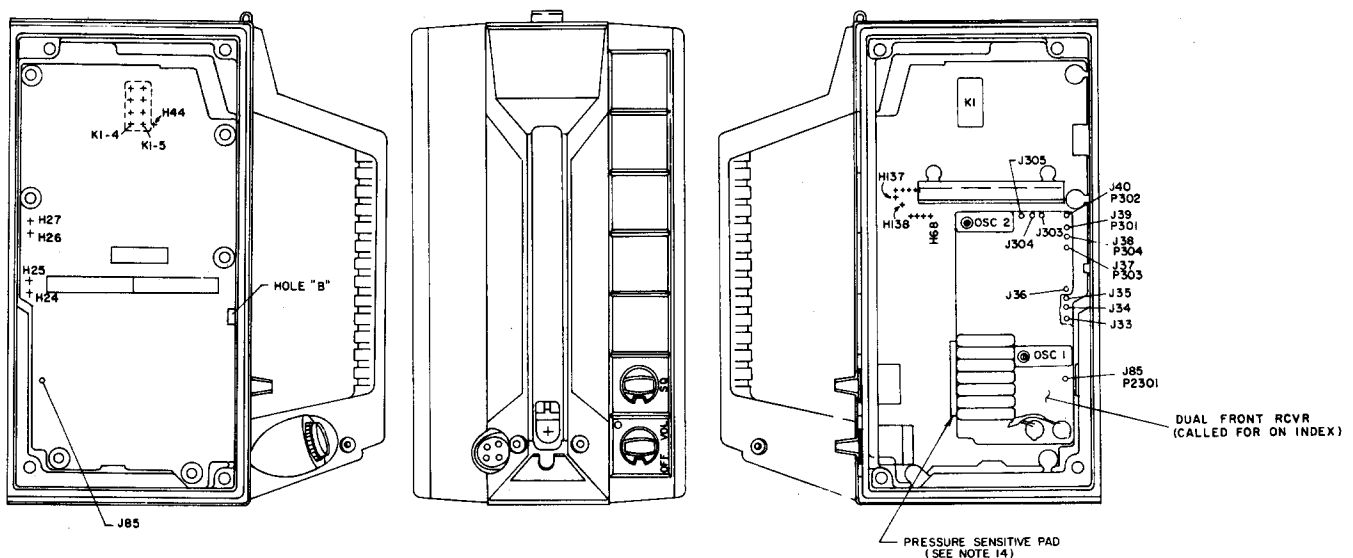

Figure 1 - Outline Diagram
5. Assemble Dual Front RCVR to J36, J37, J38, J39, J40 and J85 of systems board as shown in Figure 1.